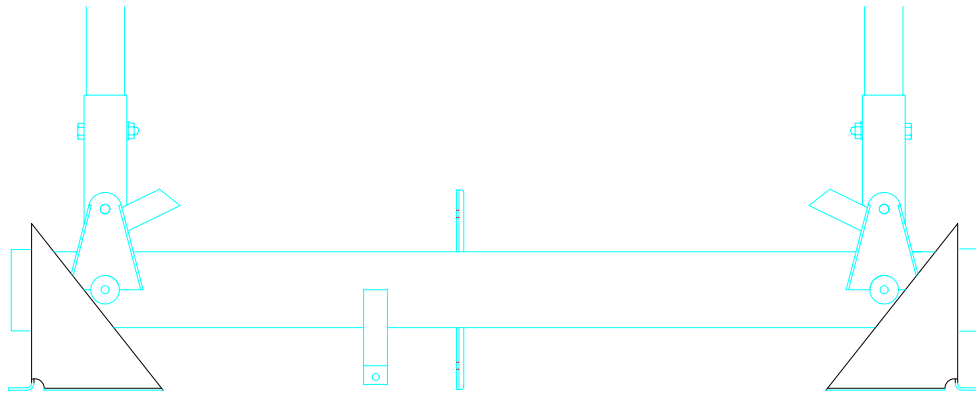

Figure 15.4.5
7) Place the bearing base assembly on the control torque tube assembly. Figure 15.4.5.